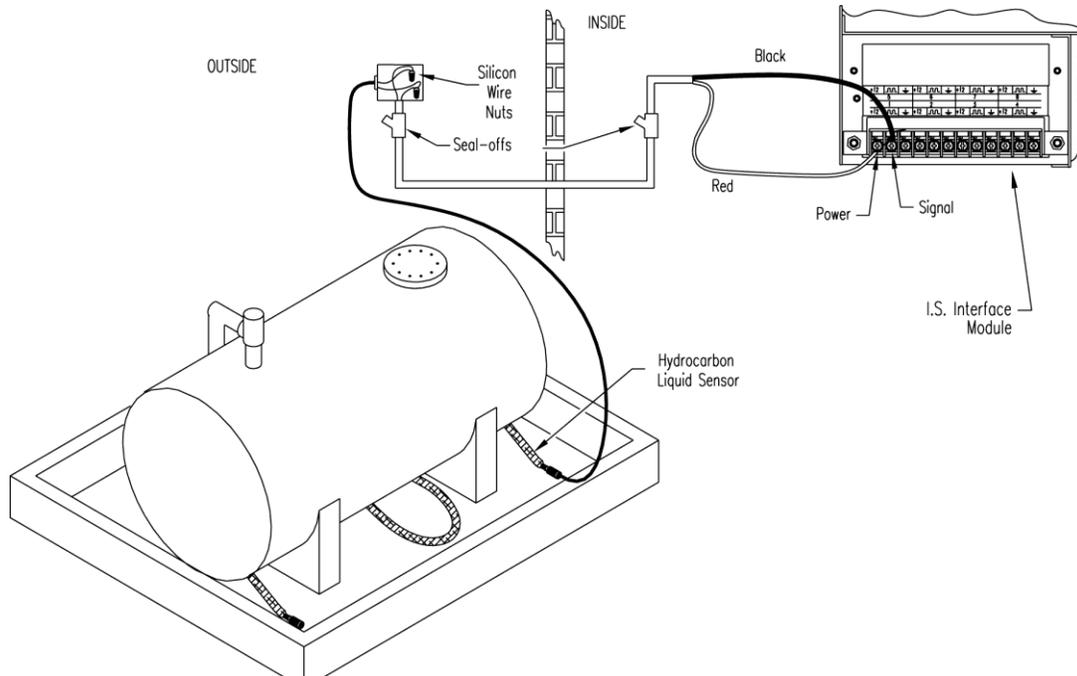

Figure 13-4 Hydrocarbon Liquid Sensor Installation
- Review Figure 13-4 on page 43.